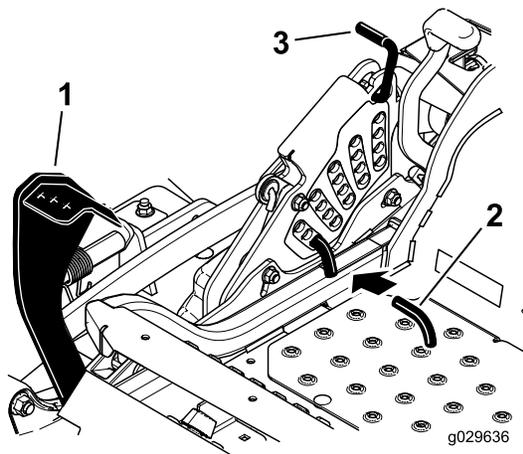

Figure 28
2. Push on the deck-lift pedal with your foot and raise the mower deck to the transport position (also the 140 mm (5–1/2 inch) cutting-height position); refer to Figure 28.
3. To adjust, rotate the pin 90° and remove the pin from the height-of-cut bracket (Figure 28).
4. Select a hole in the height-of-cut bracket corresponding to the height of cut desired, and insert the pin (Figure 28).